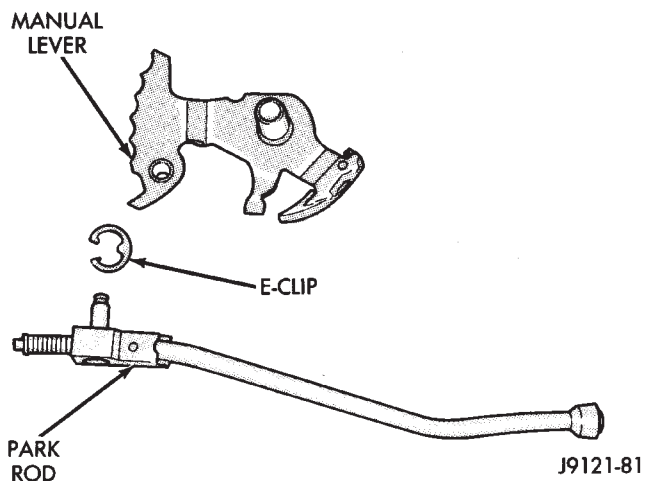

Fig. 110 Park Rod Removal
(8) Remove park rod E-clip and separate rod from manual lever (Fig. 110).